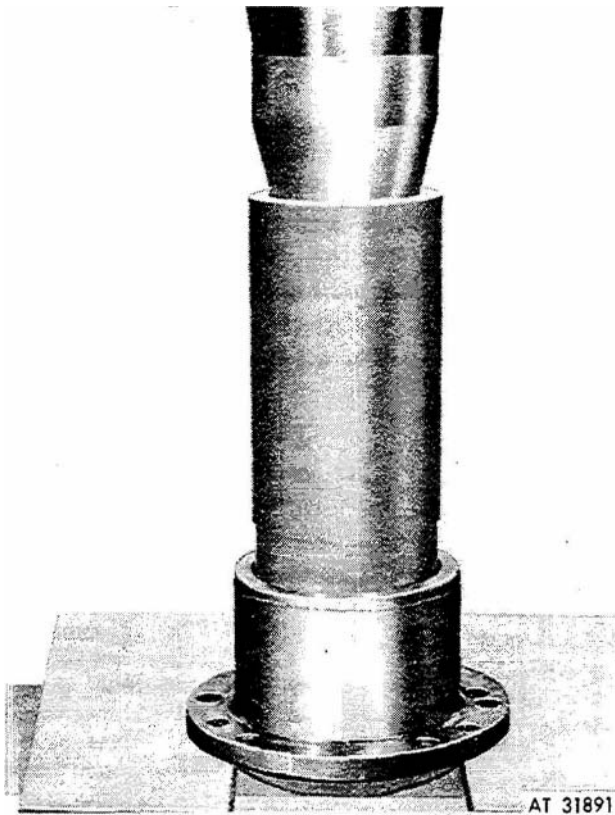

Figure 3-95. Pressing bearing cup from housing.
(10) Press bearing cup of bearing (49, fig 3-88) from housing (50) as shown in figure 3-95.